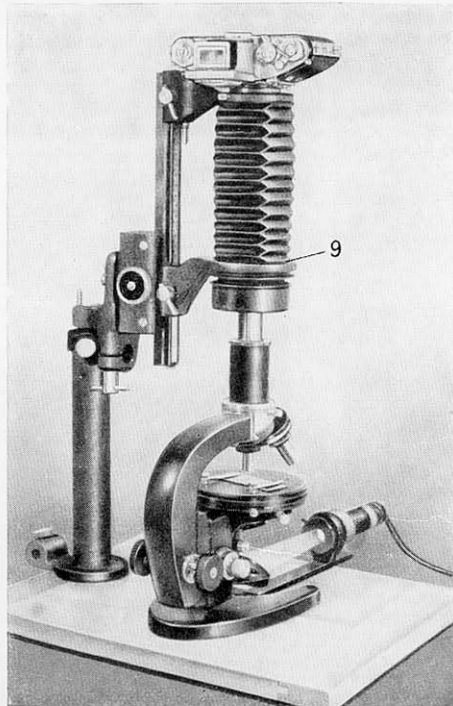
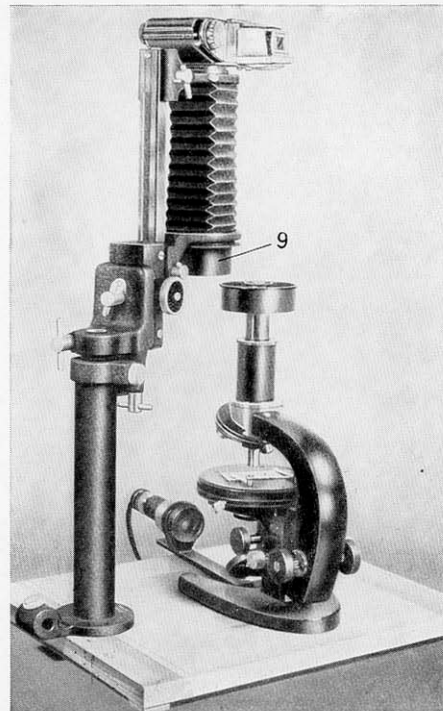

Fig. 28
Fig. 29
You know, of course, that it is possible to connect the EXAKTA Varex to any usual type of microscope with the aid of one of the microscope attachments. Many experts, however, avoid bringing the camera into direct contact with the microscope. This is possible with the Vielzweck too. EXAKTA Varex and microscope can be used in one without being mechanically fixed together. For this purpose you need the repro attachment (Figs. 28 to 31, and section A., pages 9 to 12). Screw the light-protection tube (9) into the threaded mount of the lens holder which, in this case, has no lens in it. You are sure to possess a second light-protection tube with your microscope, otherwise it
precisely above the optical axis of the microscope. Thus, the image produced by the lens and ocular of the microscope is projected into the camera. Having centered the camera, you fasten the stop ring (2/2) on the lower column (2) – Fig. 1 – causing the headpiece (5) to touch the screw knob of the stop ring (2/2) – Fig. 28 –. If at any time you wish to interrupt your photographic work on the microscope, you push the lens holder (7/2) a little way up the gliding rail (6/3), disconnecting the light-protection tubes, loosen the fastening screw (5/3) of the headpiece, and you will be able to swing the complete equipment to one side, as shown in Fig. 29. On resuming your photographic work, you need not to repeat the centering performance, for you simply swing the equipment back to the stop marked by the stop ring (2/2). – The height of microscopes generally in use usually requires only the lower column (2) of the repro attachment. It might happen – owing
Fig. 28/29: Repro attachment 1 (repro stand with bellows attachment): vertical arrangement for micro-exposures. Left: working position, right: photographic equipment swung aside when not in use